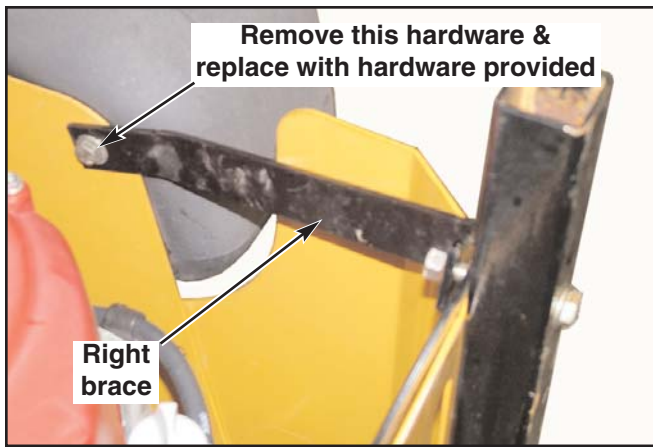

Figure 3-24
5. Remove the right rear upper fuel tank mounting bolt. Fig. 3-24